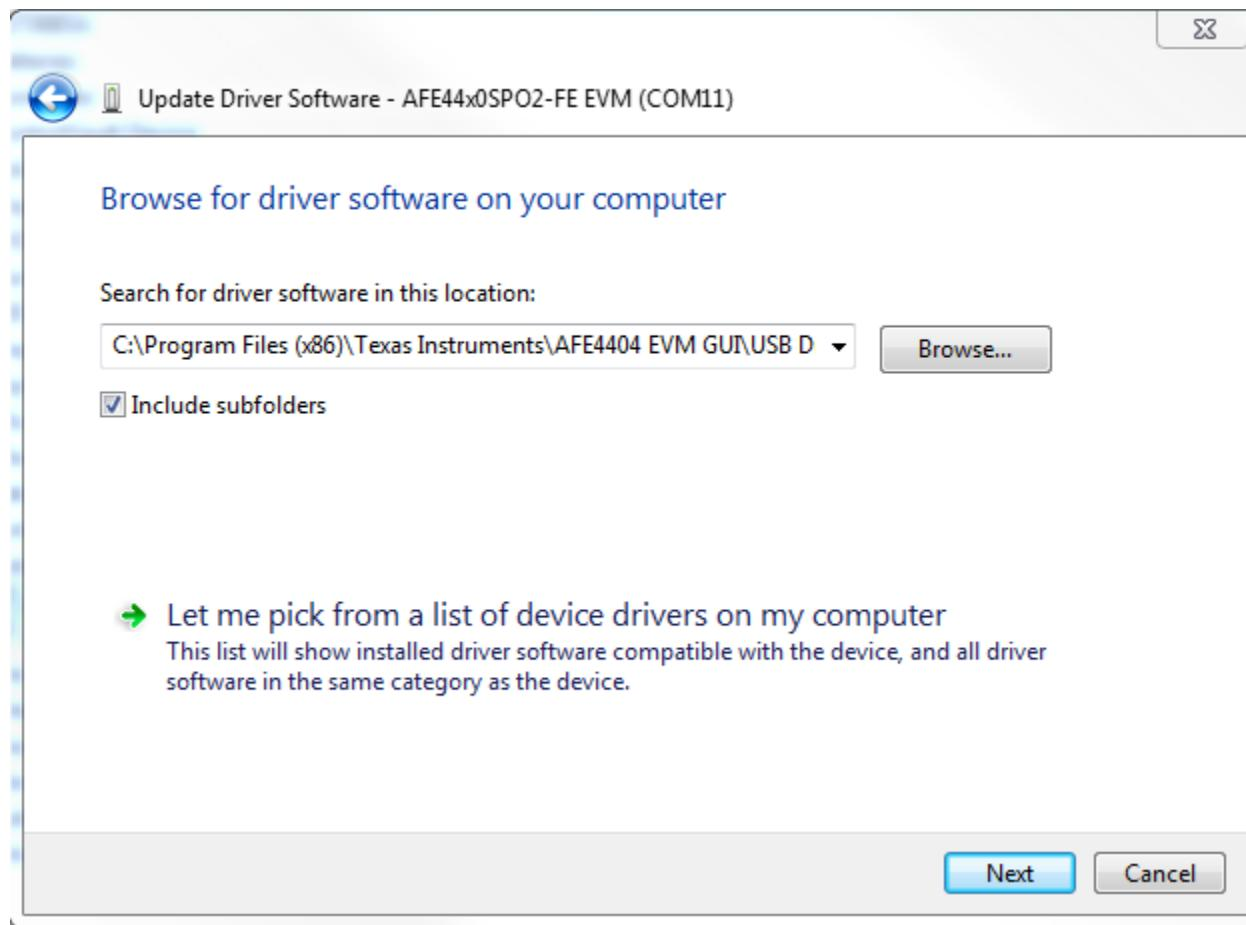

Figure 17. USB Driver Installation - Screen 3
4. As shown in Figure 17, navigate to the directory where the *AFE44xx.inf* file is located by clicking the **Browse** button. The file is located at the following path: